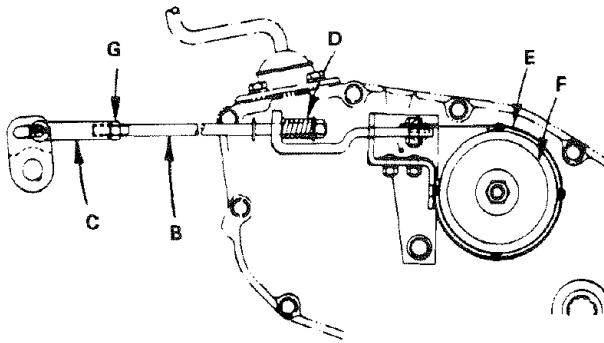

FIGURE 22
- Loosen jam nut (G) on brake rod (B) at clevis (C) (Fig. 22). If you find it difficult to loosen jam nut (G), remove cover plate in L.H. frame rail.
- Rotate brake rod (B) counterclockwise (↺) turning brake rod out of clevis (C) four to six turns.
- g. Shut engine off. Rotate brake rod (B) clockwise (↻) by hand, turning brake rod into clevis (C), until tight. Tighten jam nut (G) on brake rod. (B) at clevis (C) (Fig. 22).
- h. Reinstall shift cover plate and four (4) mounting screws. Replace cover plate if removed in step b.